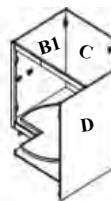

Figure 5
- 5. Insert Right Rear Side Panel (D)** connect with the face frame (**A1**). Insert Left Rear Side Panel (**C**) (**Figure 5**) Align the cam lock connectors and lock.